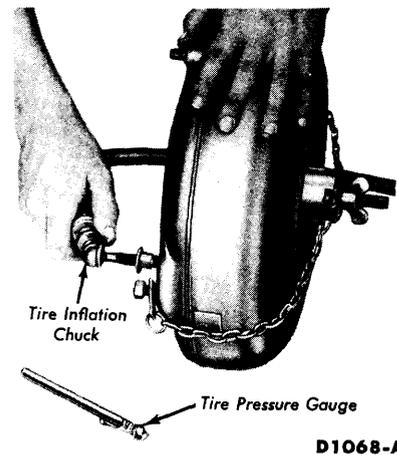

FIG. 5—Converter Leak Checking Tool Installation
1. Install the plug in the converter (Fig. 5) and expand it by tightening the wing nut. Attach the safety chains.